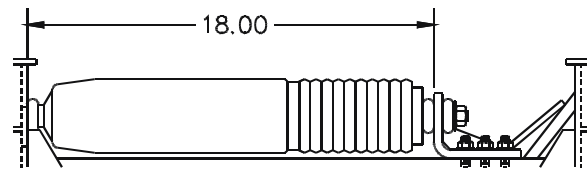

Figure 25 - Steering Damper Mount Location
2. Connect the steering damper mount to the relay rod such that the distance between damper mounts is 18 inches when the suspension is steered straight. See Torque Table. (See Figure 25).